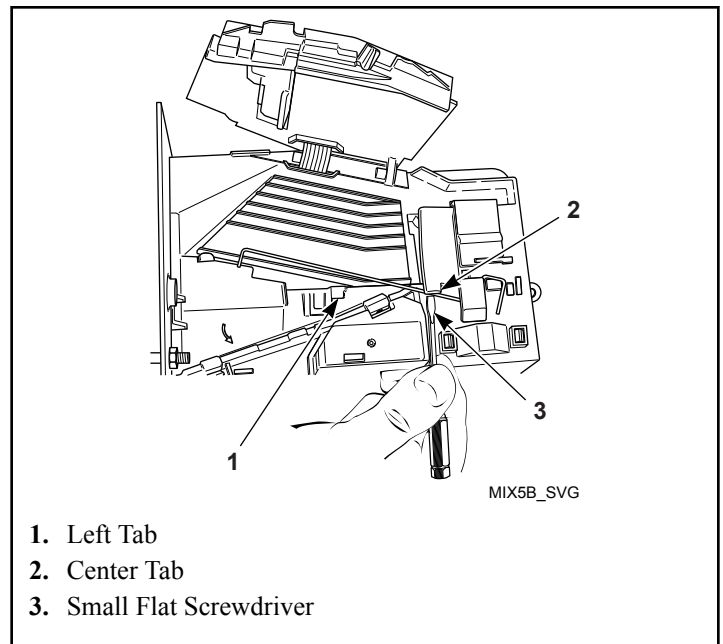

Figure 10
12. Use a small flathead screwdriver to push spring under center tab. Refer to *Figure 10*.